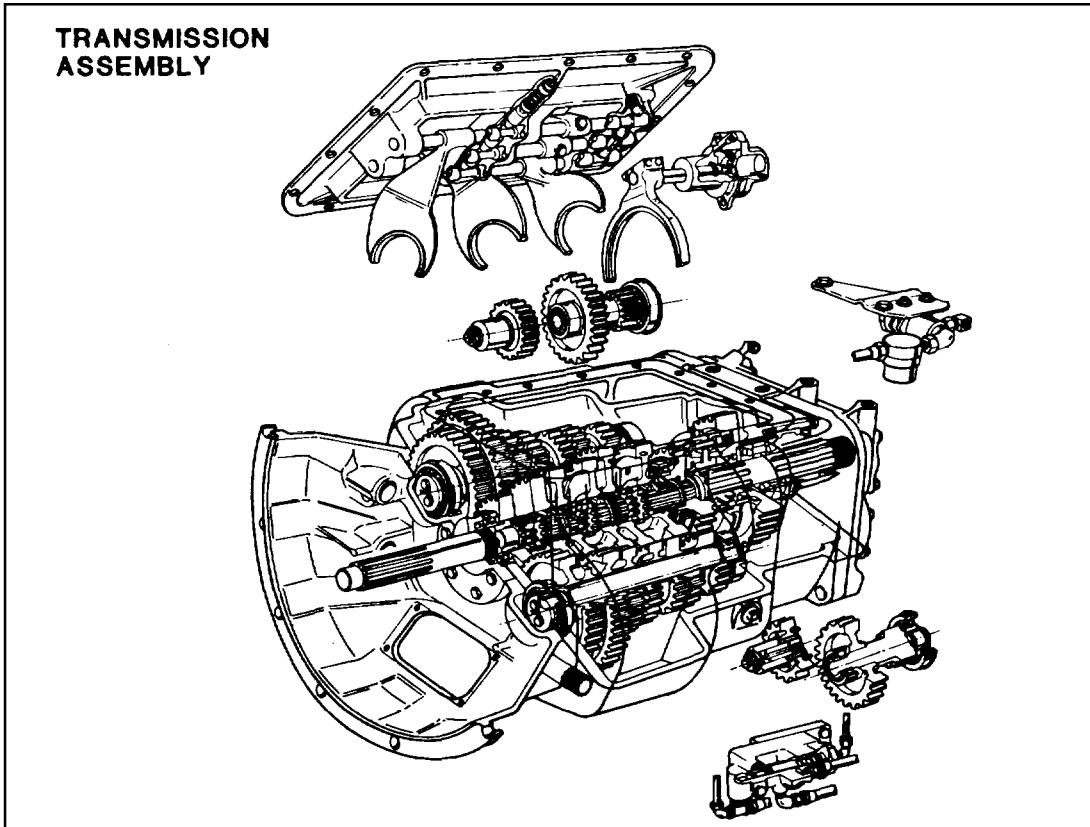

Fig. 5
- (1) Gaskets: Use new gaskets throughout the transmission as it is being rebuilt. Make sure all gaskets are installed, as omission of gasket can result in oil leakage or misalignment of bearing covers. See "Location of Gaskets" paragraph 4.33.
- (2) Capscrews: To prevent oil leakage, use shellac on all capscrews. See torque rating chart for recommended torque.
- (3) "O" Rings: Lubricate all "O" rings with "Dow Corning 200 Fluid", 50,000cs.
- (4) Initial Lubrication: Coat all thrust washers and splines of shafts with Lubriplate during installation to provide initial lubrication, preventing scoring and galling.
- (5) Axial Clearances: Maintain original axial clearances of mainshaft forward speed gears of .005" to .012". Mainshaft reverse gear clearance is .005" to .012".
- (6) Bearings: (See Fig. 5). Use of flanged-end bearing drivers is recommended for the installation of bearings. These drivers apply equal force to both races of bearing, preventing damage to balls and races and maintaining correct bearing alignment with shaft and bore. If tubular or sleeve type driver is used, apply force only to inner race.